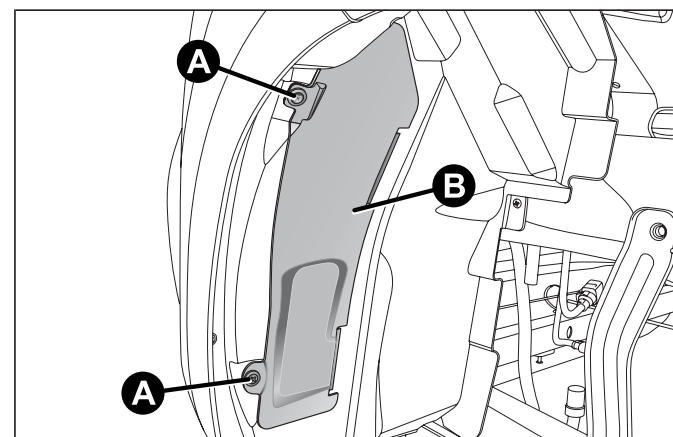

fig. 128
- ☐ adjust the screws A fig. 128 and remove the flap B;